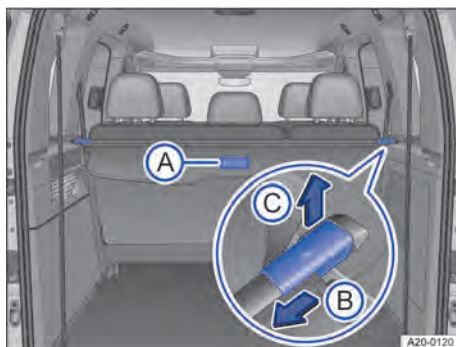

Fig. 149 In the load compartment: load compartment cover.
1. Use the handle → Fig. 149 A to pull the load compartment cover back slightly.
1. Use the handle → Fig. 149 A to pull the rolled-up load compartment cover evenly to the rear.
1. Unlock the load compartment cover in the direction of the arrow → Fig. 149 B
→ Fig. 149 ©.
2. Pull and hold the catch of the load compartment cover in the direction of the arrow → Fig. 149 ©.